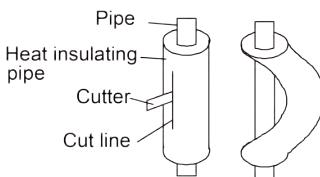

Fig. 4.11
- (2) Do not bend the pipes in an angle more than 90°.
- (3) When pipes are repeatedly bent or stretched, the material will harden, making it difficult to bend or stretch them any more. Do not bend or stretch the pipes more than three times.
- (4) When bending the pipe, do not bend it as is. The pipe will be collapsed. In this case, cut the heat insulating pipe with a sharp cutter as shown in Fig. 4.11, and bend it after exposing the pipe. After bending the pipe as you want, be sure to put the heat insulating pipe back on the pipe, and secure it with tape.